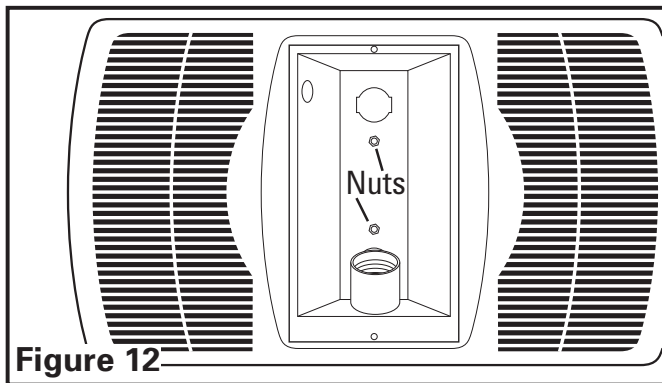

Figure 12
- Attach light reflector in place with the two nuts removed during *Step 2* in **SECTION 1 Preparing the Unit** so grill fits snugly against ceiling (**Figure 12**).